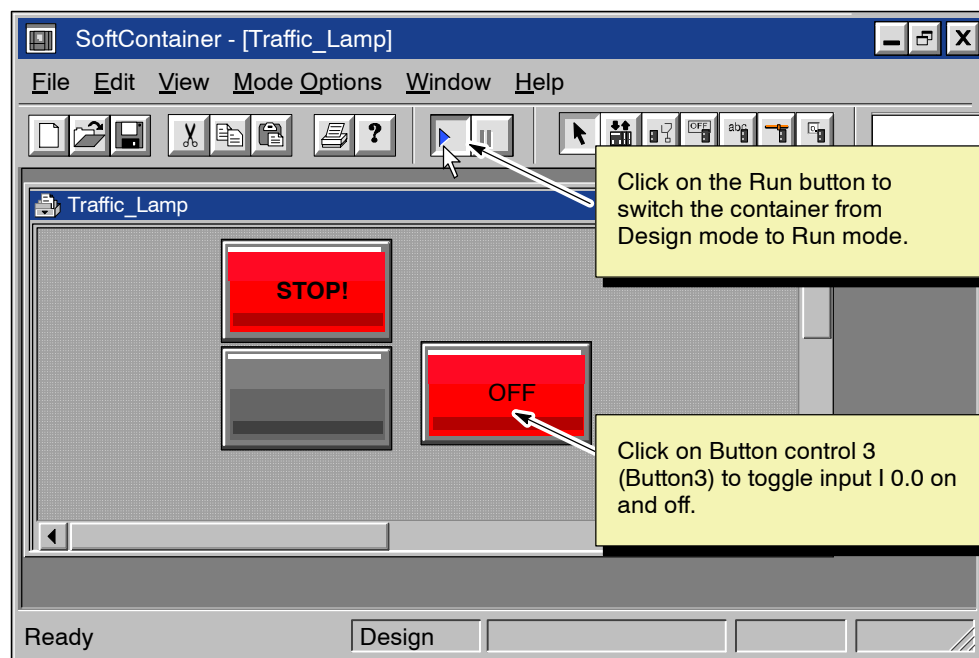

Figure 3-25 Placing the SoftContainer into Run Mode
1. As shown in Figure 3-25, select the Run icon or use the **Mode > Run** menu command to place the SoftContainer in Run mode and connect the process form to WinLC RTX.
2. As shown in Figure 3-25, click on the button labelled “OFF” (which is Button control 3, or Button3) to start the cycles for the PC Station program.